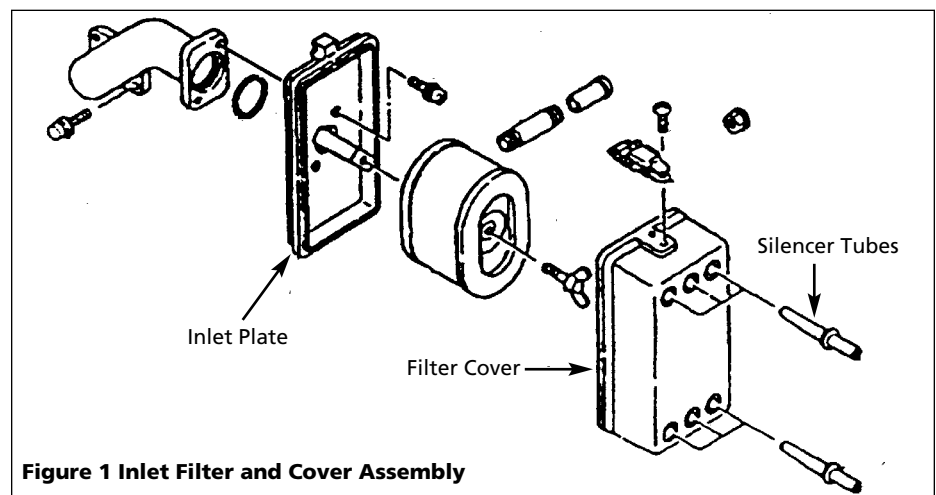

Figure 1 Inlet Filter and Cover Assembly
1. Remove filter cover by releasing spring clamps (See Figure 1).